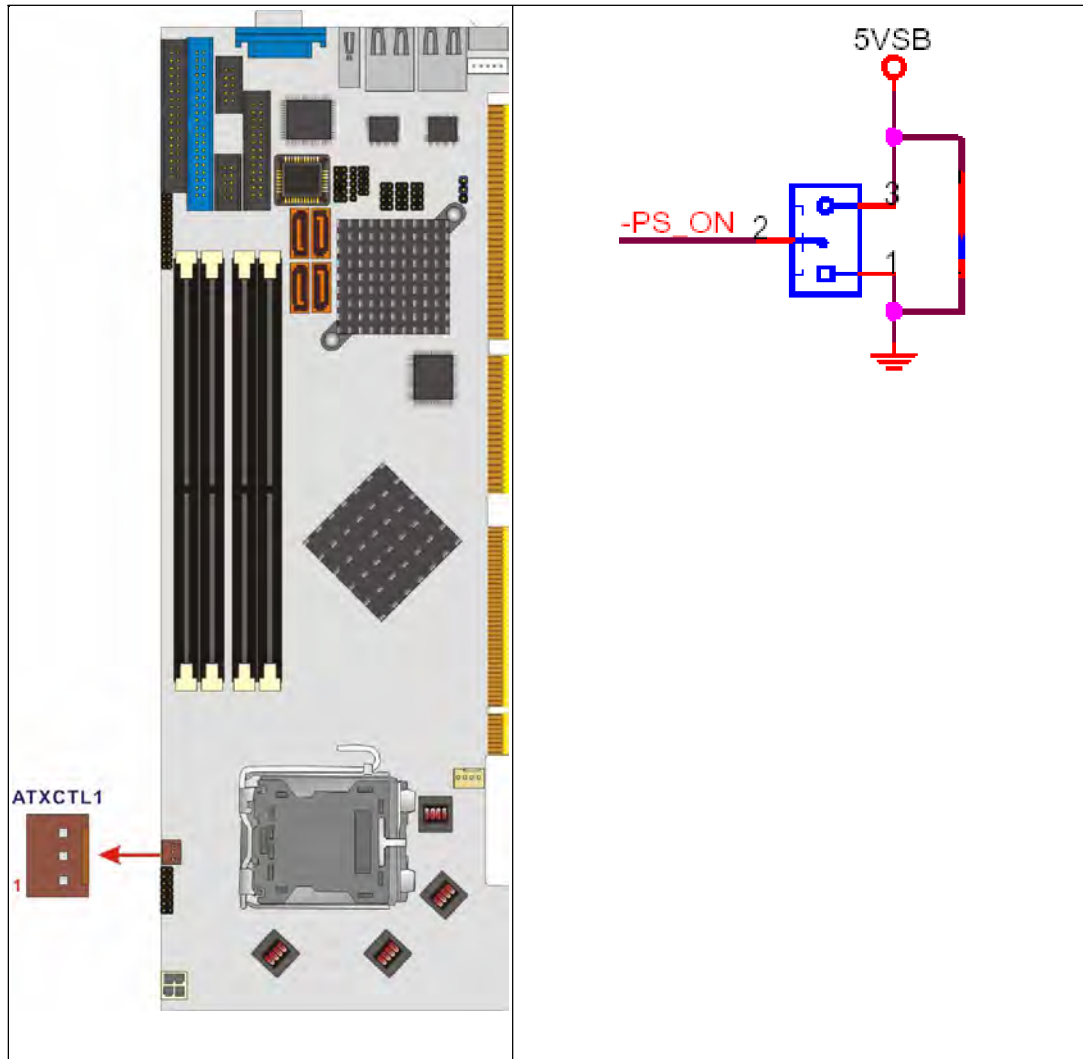

Figure 3-4: Backplane to Mainboard Power Connector Location
- CN Location:** See **Figure 3-4**